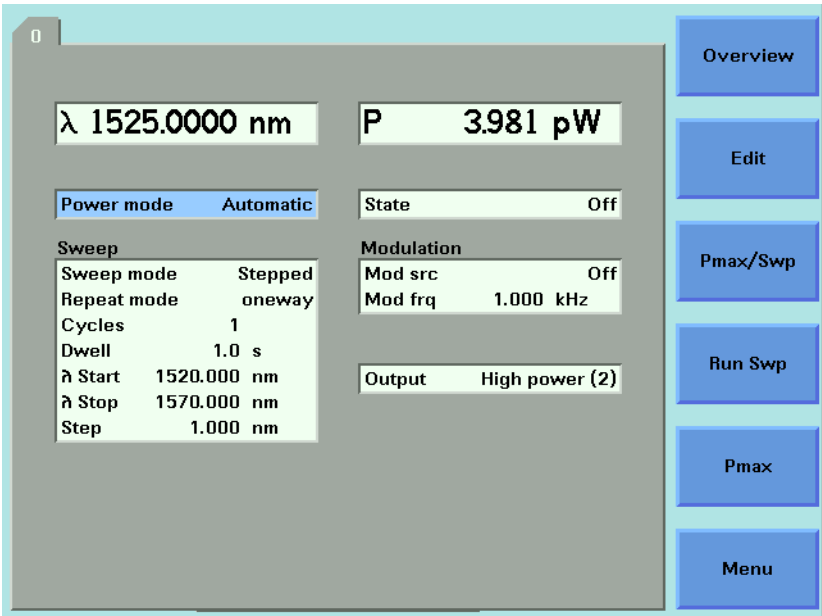

Figure 77 Setting High Power parameters
- <High Power (2)>, a high power optical output, for example, for use in tesing Erbium Doped Fiber Amplifiers (EDFAs), you see a screen similar to Figure 77,
- 6 If [Power Mode] is not set to <Manual Att.> (see Figure 77), that is, it is set <Automatic>, perform the following steps: